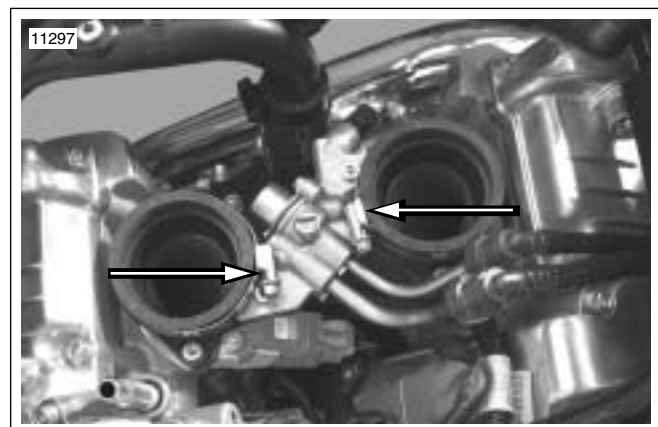

Figure 1-96. Intake Clamps, Throttle Body Removed
40. See Figure 1-96. Orient intake clamps as shown.
44. Attach the throttle position (TP) sensor.